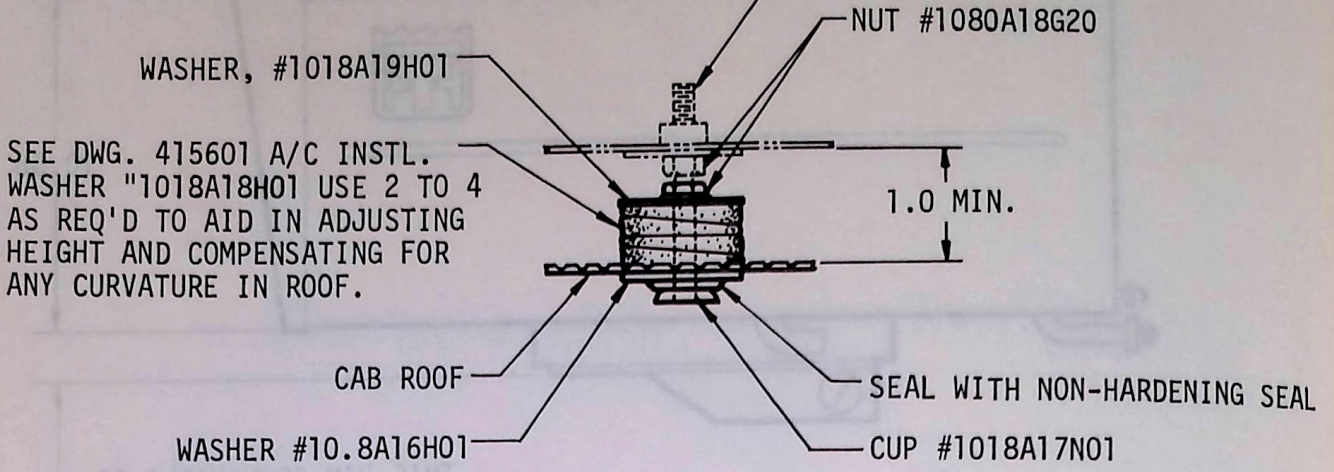

FIGURE 1
3. IF ROOF REINFORCEMENT IS REQUIRED, INSTALL ROOF REINFORCEMENT KIT USING INSTALLATION INSTRUCTIONS FURNISHED WITH THE KIT. THE PREDRILLED HOLES IN THE REINFORCEMENT MEMBER WILL LOCATE THE AIR CONDITIONER ON THE CAB ROOF. USING THE REINFORCEMENT MEMBERS AS A TEMPLATE, DRILL (4) 13/32 DIA HOLES UP THROUGH THE CAB ROOF FROM THE INSIDE. FROM THE OUTSIDE, LOCATE THE HOLE TEMPLATE (FORM 4324) ON THE (4) HOLES JUST DRILLED. THIS DETERMINES THE LOCATION OF THE LARGE HOLE FOR THE AIR CHAMBER.
- 3A. IF ROOF REINFORCEMENT IS NOT REQUIRED, WORKING FROM THE OUTSIDE DETERMINE CENTER LINE OF CAB AND TAPE TEMPLATE (FORM 4824) TO ROOF IN SUITABLE LOCATION. CENTER PUNCH AND DRILL (4) 13/32 DIA. HOLES FOR MOUNTING AIR CONDITIONER.
7. INSTALL MOUNTING HARDWARE IN CAB ROOF IN ORDER SHOWN IN FIG. 1. USE 2 TO 4 RUBBER WEDGE WASHERS POSITIONING THEM APPROPRIATELY TO ADJUST HEIGHT AND COMPENSATE FOR ANY ROOF CURVATURE. LOCK DOUBLE NUTS TOGETHER SO THAT BOLT AND NUTS WILL TURN AS ONE. APPLY NON-HARDENING SEALER AS SHOWN IN FIG. 1 TO PREVENT WATER SEEPAGE INTO CAB.
10. USING A 9/16" WRENCH FROM INSIDE CAB, CAREFULLY START THE (4) MOUNTING BOLTS INTO BASE OF UNIT. IN TURN, TIGHTEN BOLTS EVENLY TO SEAT FOAM SEAL ONTO ROOF. WORK QUICKLY TO PREVENT GLUE FROM BECOMING TOO DRY.
12. WHEN PROPER POSITION HAS BEEN ACHIEVED, BREAK NUTS APART. RUN TOP NUT UP AGAINST BUSHING IN BOTTOM OF UNIT. SEE FIG. 1. TIGHTEN TO 20-25 FT.-LBS. TORQUE. RUN LOWER NUT DOWN AGAINST WASHER ON TOP OF RUBBER WEDGE WASHER STACK TIGHTEN TO 4 FT.-LBS. TORQUE.